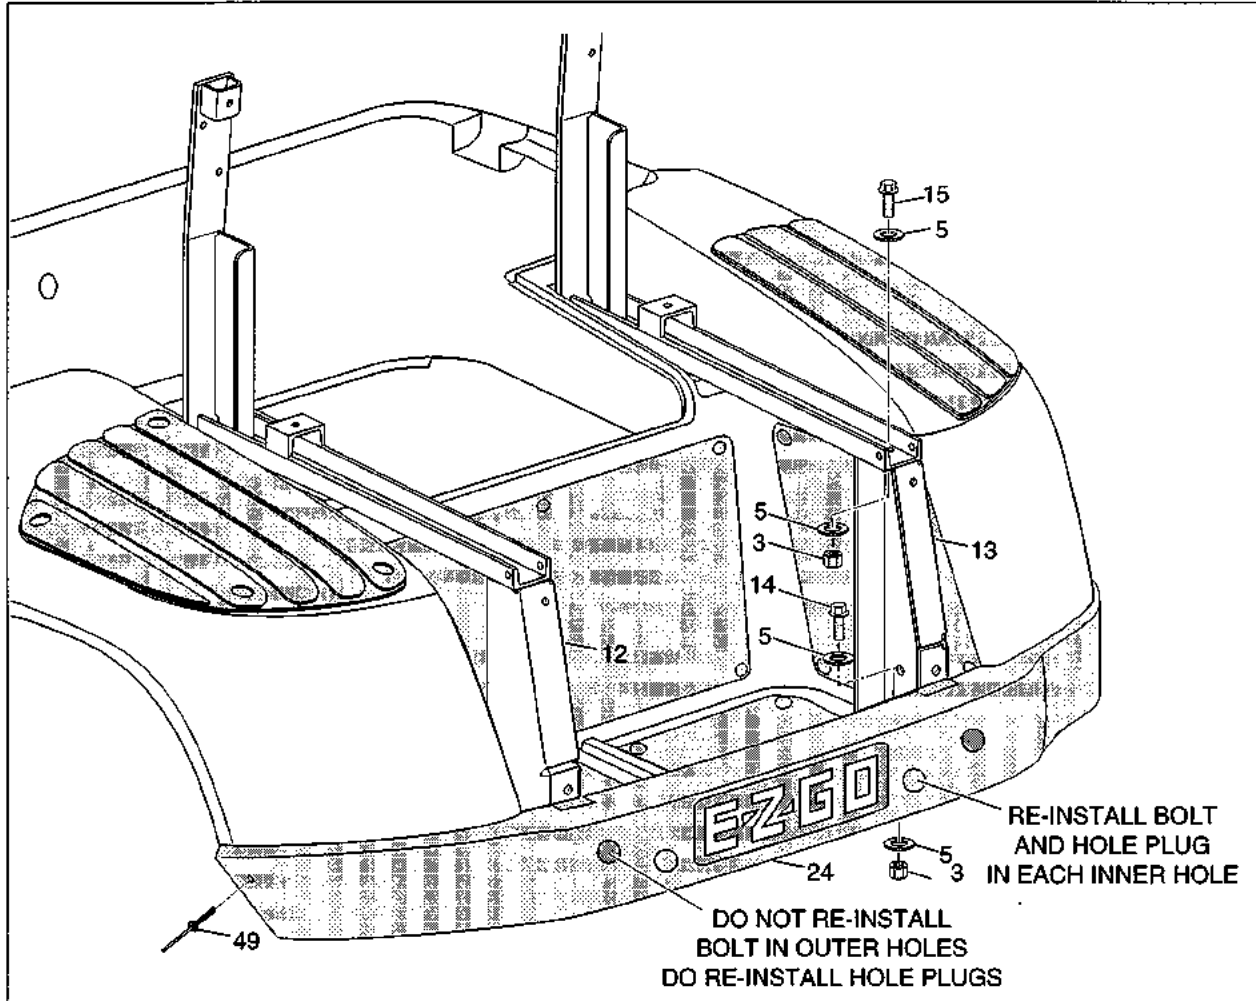

Fig. 4
3. Remove bumper and replace with new bumper (item 24) contained in kit, using bolts removed above to re-attach bumper to vehicle. Note the new bumper is secured with bolts inserted through the inner 2 mounting holes only. (See Fig. 4) Tighten to 21 - 25 ft. lbs. torque.
4. Fasten each end of bumper to rear fender using rivet (item 49). (Hole in fender may need to be enlarged to 13/64".)
1. Place vertical frame support (items 12 and 13) between the seat back support and bagwell as shown. Insert bolt (item 14) and washer (item 5) from inside bagwell and place washer (item 5) and nut (item 3) underneath frame (See Fig. 4). Finger tighten the hardware since the bottom washer and nut will be removed later for further installation.
2. Secure the top of the vertical frame support to the seat back support using bolt (item 15), washers (item 5) and nut (item 3) (See Fig. 4). Do not tighten hardware.